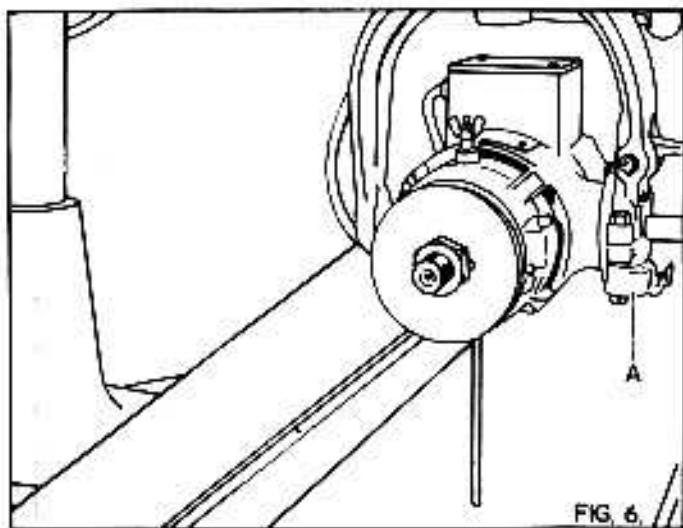

FIG. 6
3. Secure a small dia. rod between saw flanges as shown in Fig. 6 then raise or lower arm until end of the rod almost touches table.